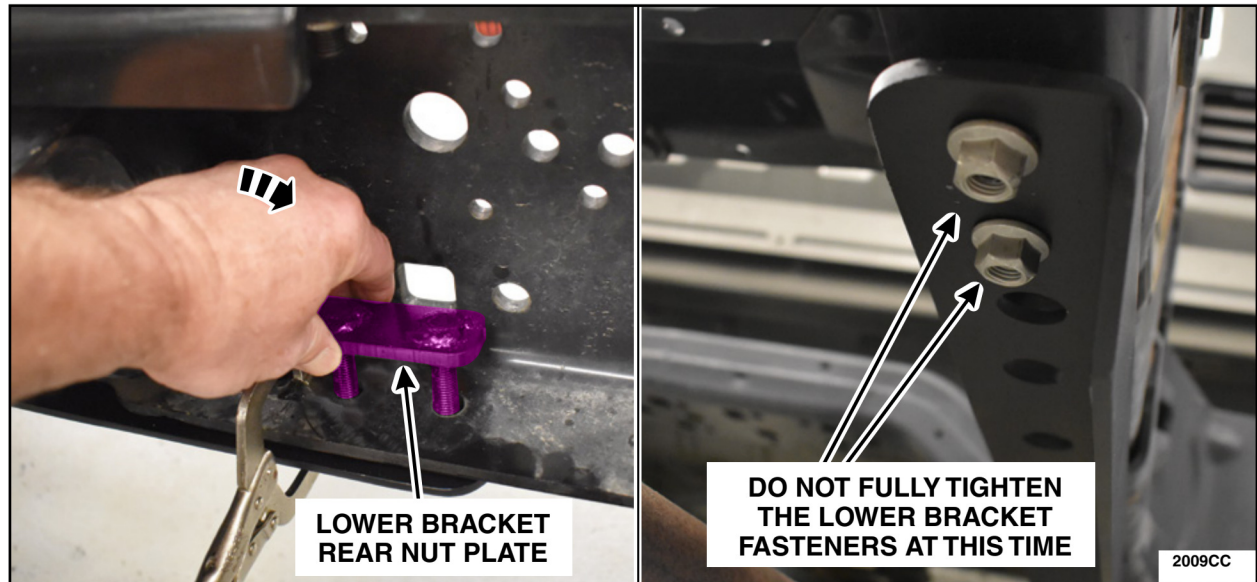

FIGURE 25
7. Position the lower bracket back in place with the rear two (2) holes aligned for Non-60CA and the four (4) holes aligned for the 60CA, and clamp the bracket to the frame. Install the rear nut plate and the two (2) rear fasteners as shown in Figure 25. Do Not fully tighten the fasteners at this time.